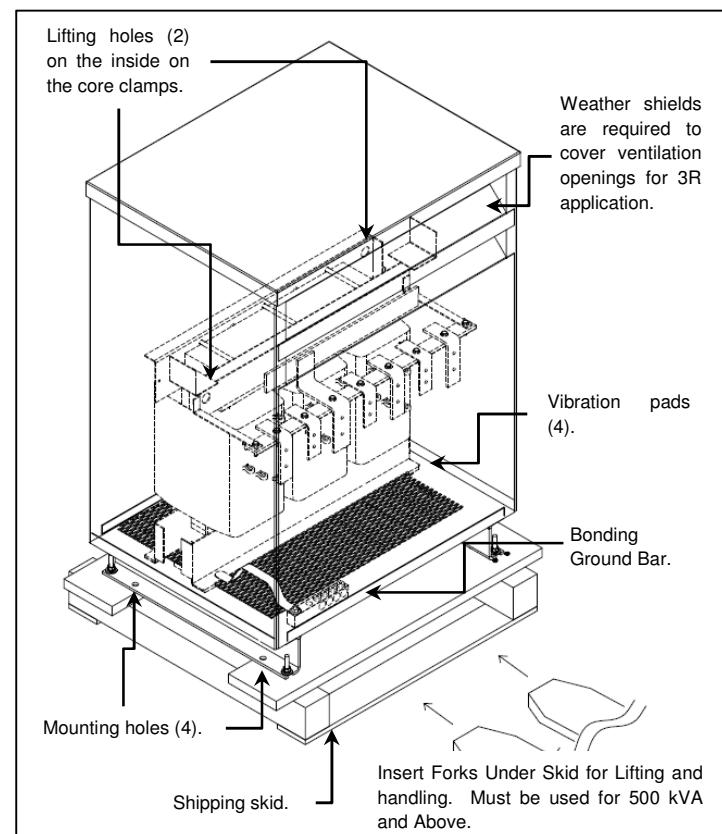

Figure 1: Typical Ventilated Transformer.
- For further information see Figure 1 and 2.